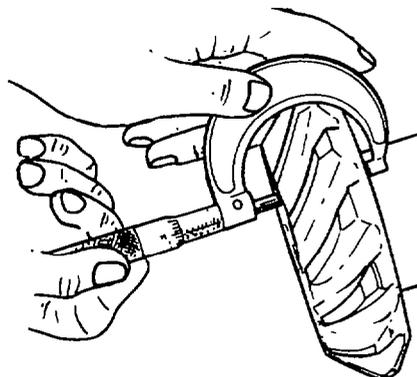

Fig. 303 — Measuring Bevel Pinion Gear
- a. Note and record the dimension etched on the back of the bevel pinion gear and measure the thickness of the pinion head as shown in fig. 303.